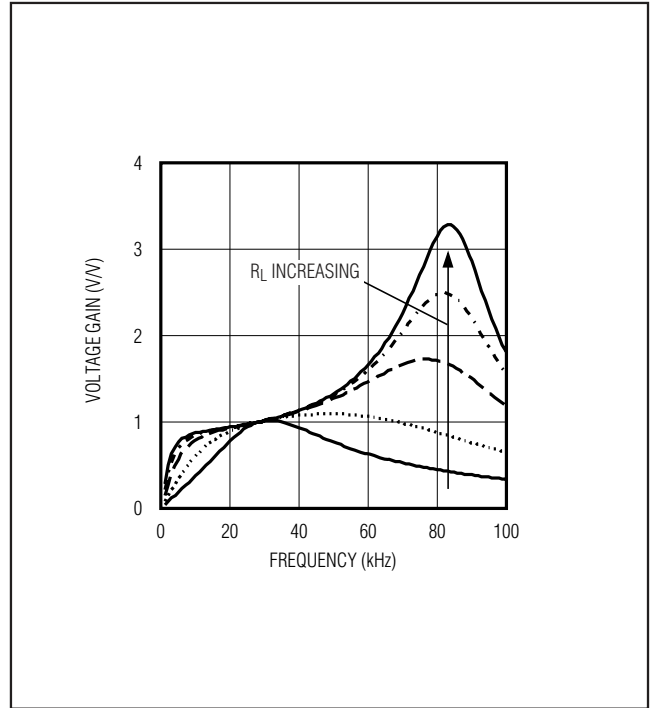

Figure 6. Frequency Response of the Resonant Tank
Figure 6 shows the frequency response of the resonant tank's voltage gain under different load conditions. The primary series capacitor is $1\mu\text{F}$, the secondary parallel capacitor is 15pF , the transformer turns ratio is 1:93, and the secondary leakage inductance is 260mH . Notice that there are two peaks, f_S and f_P , in the frequency response. The first peak f_S is the series resonant peak determined by the secondary leakage inductance (L) and the series capacitor reflected to the secondary (C_S'):